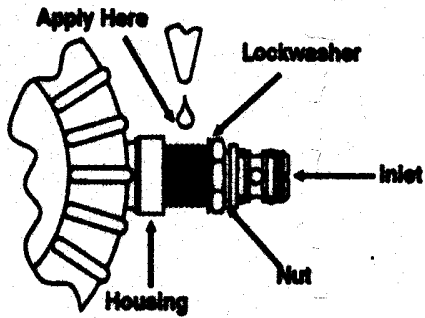

FIGURE 3.
2. Before installing the inlet, apply one small drop of thread sealant (P/N 820471) as shown in Figure 3. Do not allow sealant to flow into the case or obstruct the inlet flow holes.